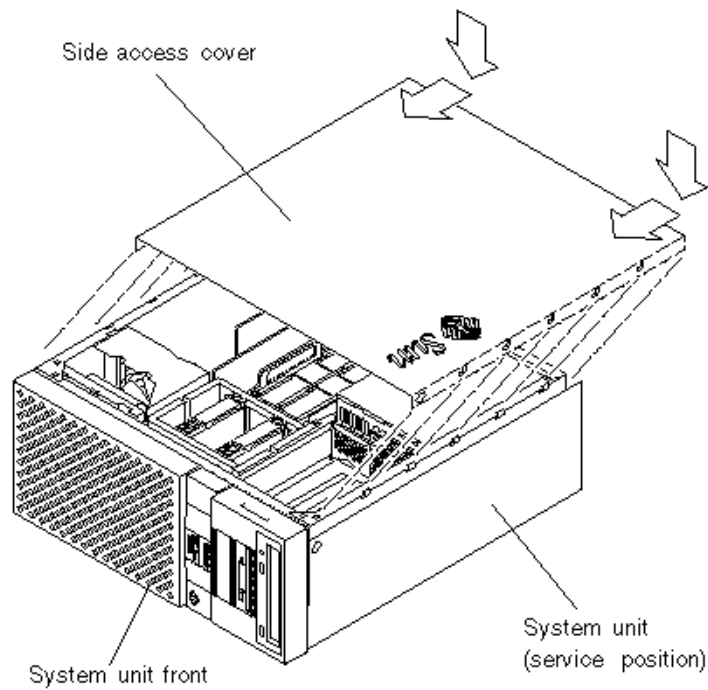

Figure 7-4 Replacing the Side Access Cover
1. Position the side access cover (Figure 7-4).